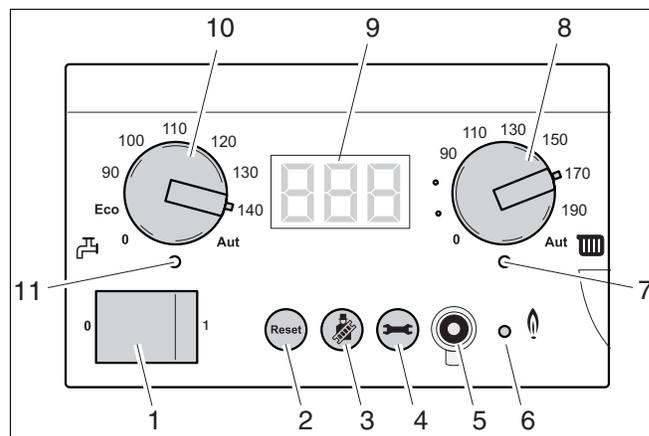

Fig. 64 BC10 basic controller
- Press the "Chimney sweep" button (fig. 64, pos. 3) to clear the reading. See also table 8, "Flue gas test", page 41.
- Press and hold the "Chimney sweep" button (fig. 64, pos. 3) (approx. two seconds), until the dot in the right-hand bottom corner of the display (fig. 64, pos. 9) appears. See also table 8, "Flue gas test", page 41.
- After the LED "Burner operation" (fig. 64, pos. 6) has lit up wait for one minute until the boiler is burning at full load.
- Switch OFF the heating system by pressing the main switch of the BC10 basic controller (fig. 64, pos. 1).
- After the LED "Burner operation" (fig. 64, pos. 6) has lit wait for one minute until the boiler is burning at full load.
- Switch ON the heating system by pressing the main switch of the BC10 basic controller (fig. 64, pos. 1).